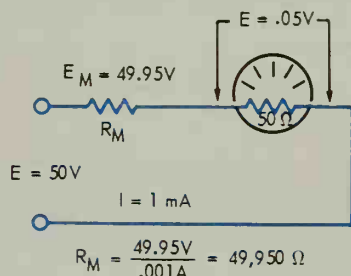

Fig. 7-7. Computation of R_M for 0-50 volt range of voltmeter.
2. Compute R_M by using Ohm's Law and check it against the circuit in Fig. 7-7.